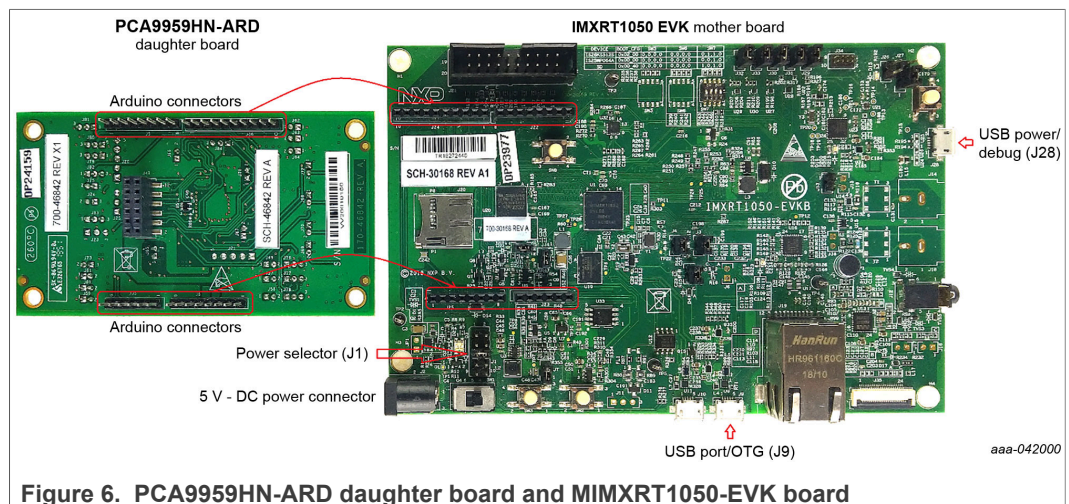

Figure 6. PCA9959HN-ARD daughter board and MIMXRT1050-EVK board
Figure 6 shows the required hardware for operation of the PCA9959HN-ARD daughter board with MIMXRT1050-EVK.
From J1 on the EVK board (see Figure 6), the user can select the power configuration for the mother board. For more details, see i.MX RT1050 Evaluation Kit.
3. Insert the PCA9959HN-ARD daughter card into the Arduino connector on the EVK. See Figure 6.